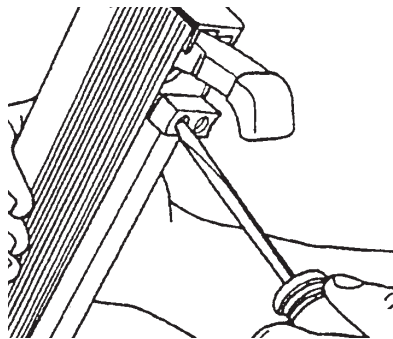

Figure 76
- a. Raise the outfeed end of the Rip Fence and use a Medium Phillips Screwdriver to loosen the two Screws that attach the Fence Rest. Tighten the Fence Rest just enough to move it with firm pressure. See Figure 76.